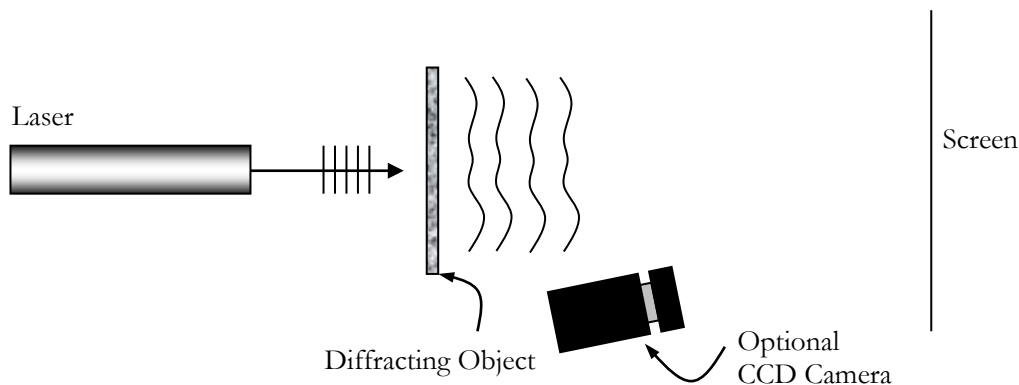

Fig. 1. Setup for observing Fraunhofer Diffraction
The setup we will use to demonstrate and study Fraunhofer diffraction is shown below. Note that it is important to illuminate the objects with a planar wavefront to observe Fraunhofer diffraction. In many cases, a reasonably accurate Fraunhofer pattern can be obtained with the raw laser beam (i.e., without the beam expander) and with the screen sufficiently far away from the diffracting object (see Figure 1).
- (d) *Optional:* Using the CCD imager as shown in Figure 1, capture an image of the two-slit diffraction pattern. It is important that you not move the imager from its current location. Using the captured image, employ Matlab to calculate the relative spacing of the slits. Provide a reconstruction of the slits, and then compare their relative dimensions numerically.